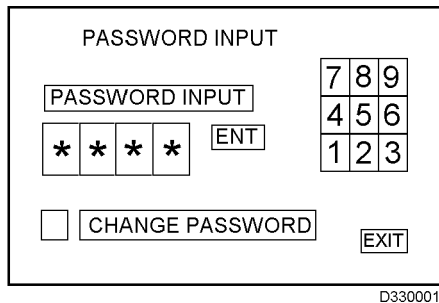

FIGURE 33-1.
1. With the screen in Figure 33-1 displayed, enter a correct password and press ENT.